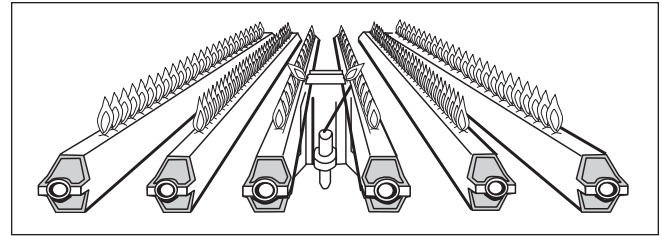

Figure 16. Main Burner Flame Pattern.
2. At start-up and every six (6) months thereafter, the pilot and main burner flame should be observed for proper performance (see Figure 16). See attached lighting and shut-down instructions for proper pilot flame pattern. If flame has the appearance of "sooting" tips, check for debris near orifices and call a qualified service technician.